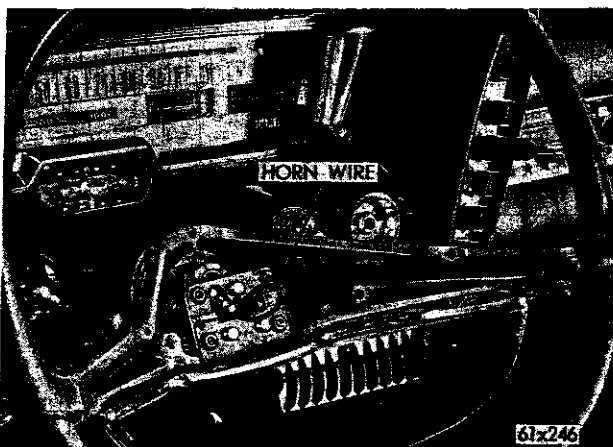

Fig. 111—Horn Switch and Horn Wire (Typical)
- (1) Disconnect the cable at the battery negative post.
- (2) Remove the two screws from the underside of the steering wheel and remove the horn blowing actuator and steering wheel cover.
- (3) Disconnect the horn wire at the horn blowing switch.
- (4) Remove the four screws and insulators and remove the horn blowing switch (Fig. 111).